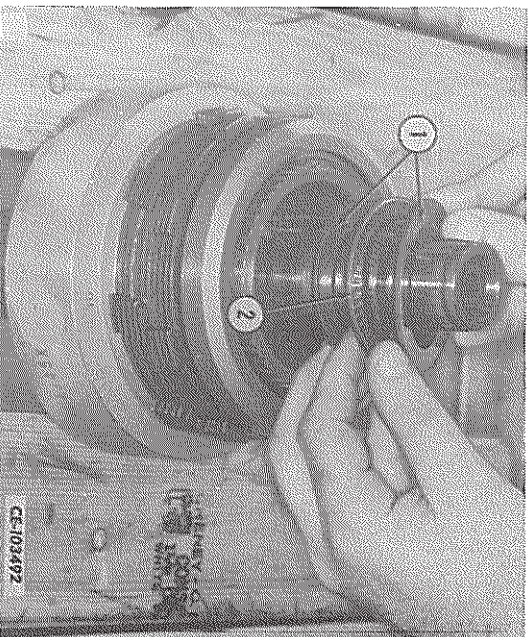

FIG. 51 — Removing the Thrust Bearing and Spacers
39. Remove the two thrust bearing spacers (1, Fig. 51) and the thrust bearing (2) from the shaft.